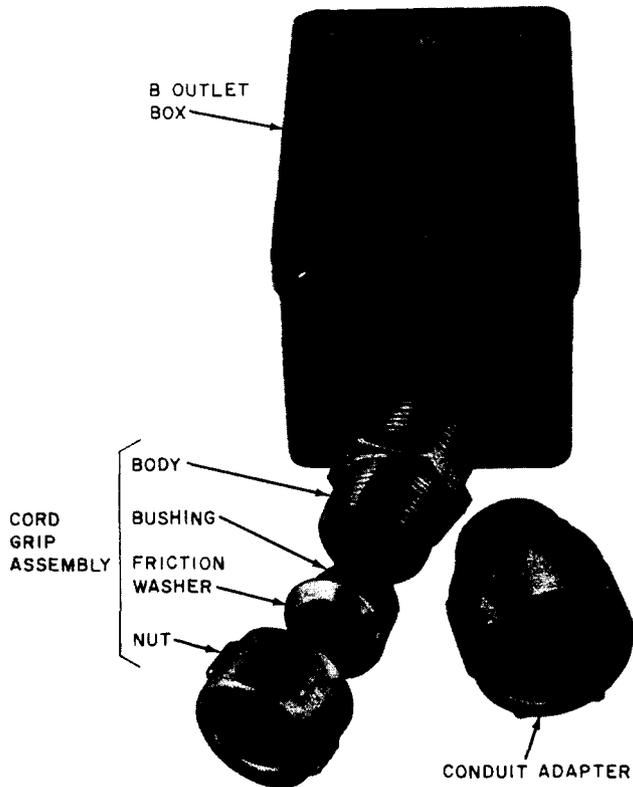

Fig. 3—B Outlet Box
- (b) Box, Outlet, B (for mounting male or female jacks on land, dock, or recreational vehicle, Fig. 3).
2.04 The B outlet box (Fig. 3) is a molded box intended for mounting the B weatherproof male or female jack. It has a threaded knockout entrance at each end for use with a plastic (PVC) cord grip assembly or polyvinyl chloride (PVC) conduit adapter. The cord grip assembly and conduit adapter come with the outlet box.